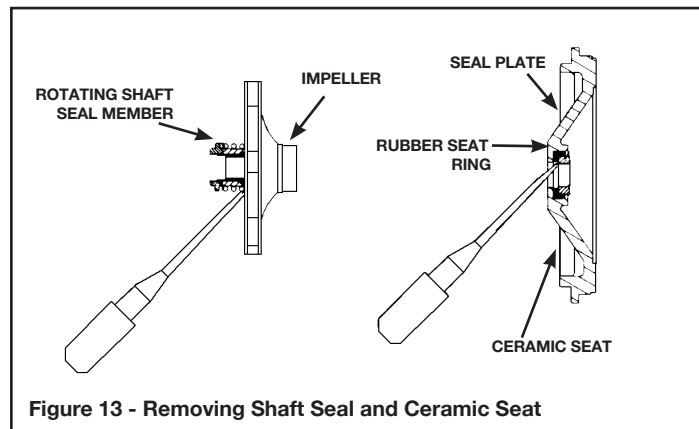

Figure 13 - Removing Shaft Seal and Ceramic Seat
9. Pry the rotating shaft seal member (including stainless collar and rubber seal) from the impeller (Figure 13).
10. Push or pry the ceramic seat, and rubber seat ring free from the seal plate (Figure 13).